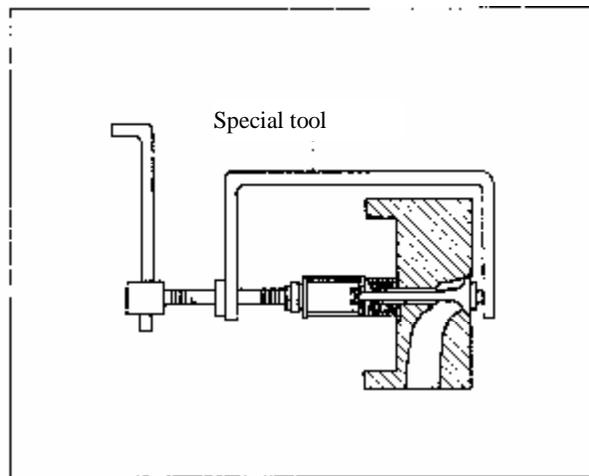

Figure 3-19 Disassembly and Installation of Valve Spring
**3.1.13** Use special tools (figure 3-19) to disassemble and assemble the valve. The valve spring end with white paint faces down at mounting.